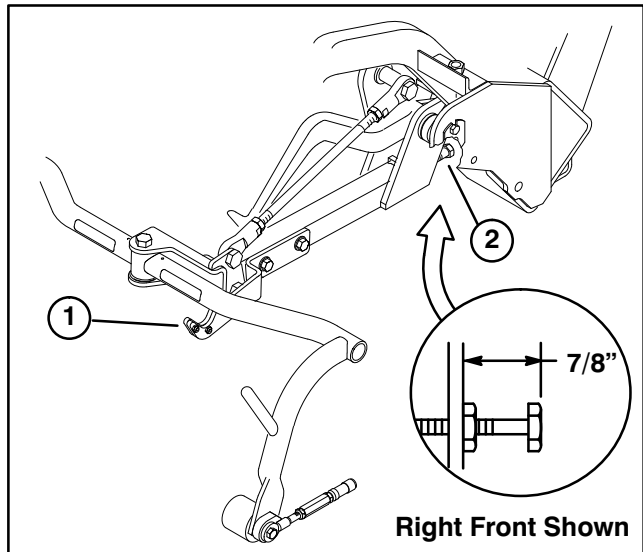

Figure 5
1. Check transport plate (Fig. 5) operation and adjust, if required, as follows:
A. Verify that the distance from the top of the carrier frame adjusting screw (Fig. 5) and back of carrier frame is 7/8".
- D. If carrier frame is not resting in center of cradle, on transport plate, loosen jam nut on carrier frame adjusting screw (Fig. 5) and rotate screw out ward until carrier frame rests on transport plate when in transport position. Tighten jam nut after adjustment is attained.